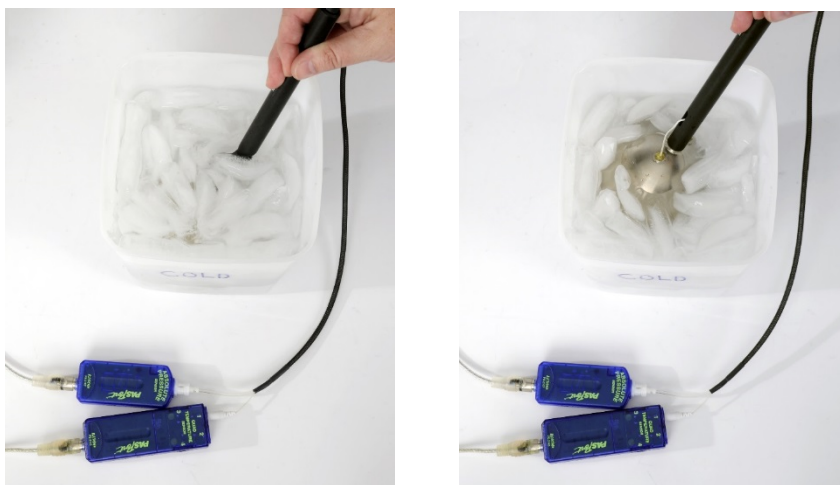

Figure 2: Be sure to completely submerge the sphere into the ice water.
3. Put the Absolute Zero Apparatus sphere into the ice bath and wait for it to come to equilibrium. See Figure 2. Once the temperature isn't changing anymore, choose to set the current value to the standard value of 0°C in calibration step 4.